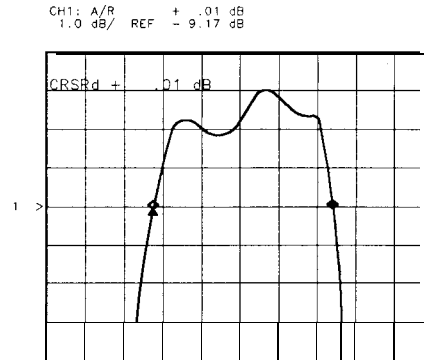
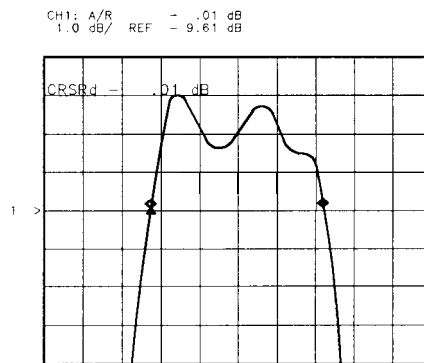

Figure 3-74. Typical PILOT 2ND IF Bandpass (SHIFT ↑)
Figure 3-75. Typical PILOT 2ND IF Bandpass (SHIFT ↓)
41. Adjust A23A3 Z5, Z6, Z7, and L4 for best bandpass shape and flatness at maximum amplitude of signal displayed on Scalar network analyzer. A typical properly-adjusted bandpass filter response is shown in Figure 3-74. See Figure 3-73 for location of adjustments. The bandpass filter response at the 3 dB points should be ≥ 22 MHz. See Figure 3-74 and Figure 3-75 for a typical PILOT 2ND IF bandpass response for a SHIFT LO \uparrow and a SHIFT LO \downarrow .
44. Check the bandpass at the 3 dB points for both the 2ND LO ↑ and ↓. On the scalar network analyzer, press **(CURSOR)** Max. Press cursor A (ON) and set the cursor at the -3 dB point f0.1 dB. Press cursor A, cursor A, and set the cursor to the corresponding -3 dB point on the opposite side of the signal. The cursor should now read 0 f0.1 dB.
46. On the synthesized sweeper, press **(MKR Δ)**, and read the bandpass (M3 – M4) shown on the ENTRY DISPLAY. Press **(MKR Δ)** OFF. See Figure 3-74 and Figure 3-75.
56. On the synthesized sweeper, press **MKR Δ** , and read the bandpass (M3 – M4) shown on the ENTRY DISPLAY. Press **MKR Δ** OFF. See Figure 3-74 and Figure 3-75.